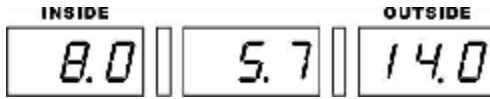

Fig 10
- I And then the display panel will show the parameter (default value) of the object to be balanced (Fig 10).